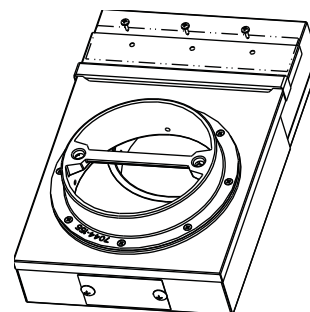

Figure 17.5
4. Cut the gasket to the proper length and slide in between the upper and lower chambers centered on the screw holes. Attach the upper and lower chambers with screws provided. **Figure 17.5.**